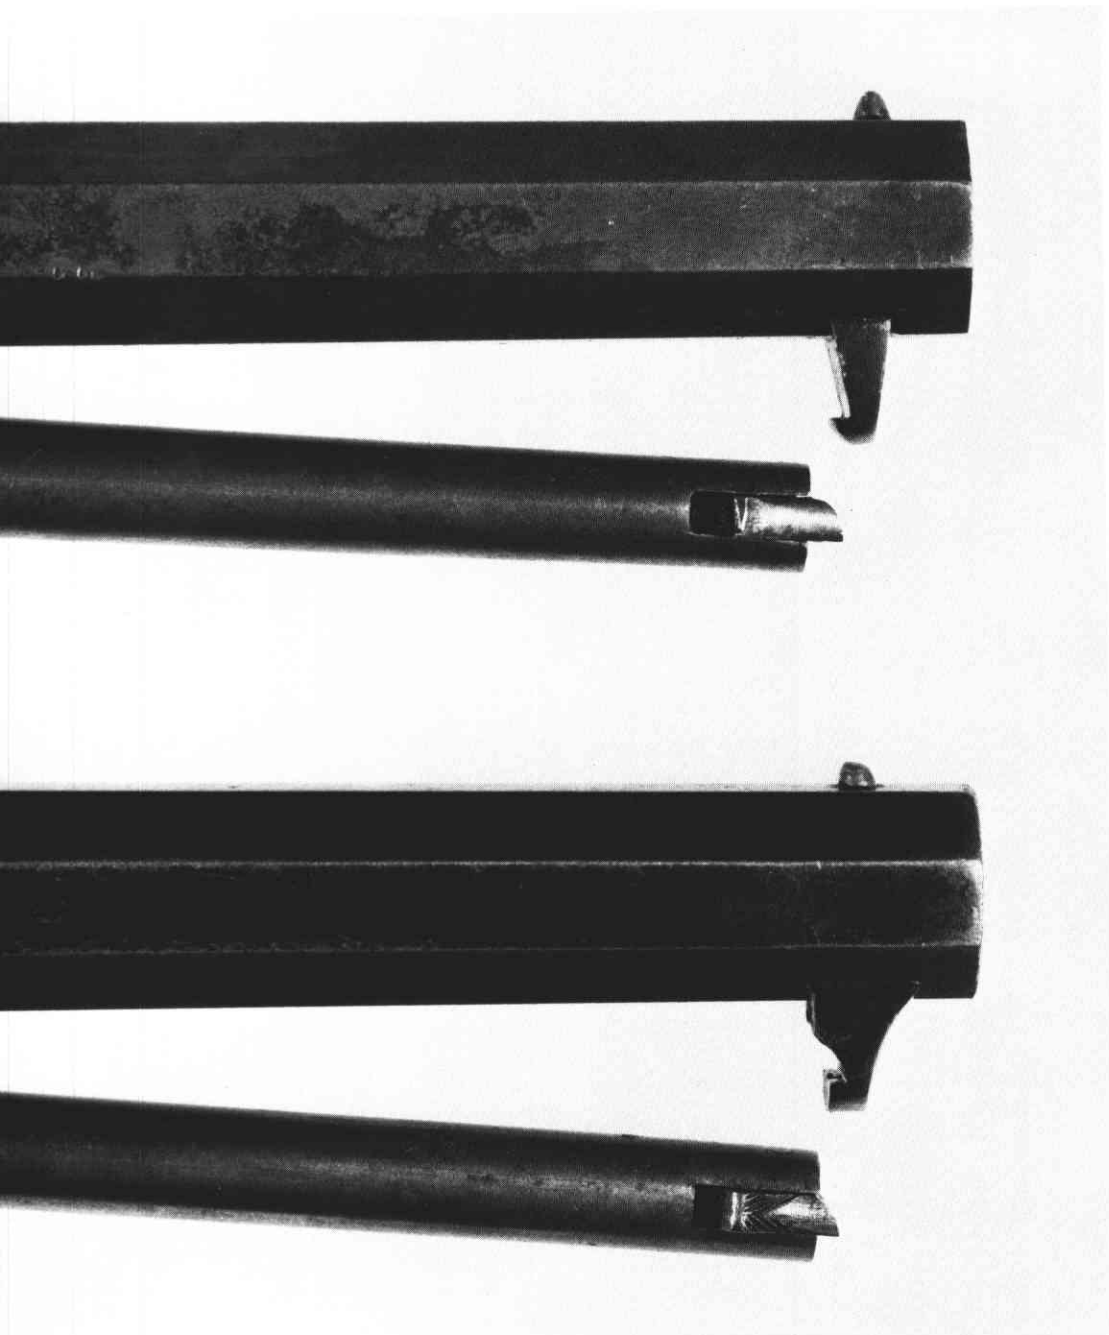

Figure 11: Loading lever catch comparison.
**Loading Lever Catch:** Figure 11 shows the loading lever catch, under the muzzle end of the barrel, on the London Navy is the "thin" type (upper barrel), while the Hartford Navies have both the "thin" and "thick" (lower barrel) type catches. The terminology "thin" and "thick" comes from the width of the catch where it is attached to the barrel. No differences were noted on the loading levers of the London and Hartford Navies.